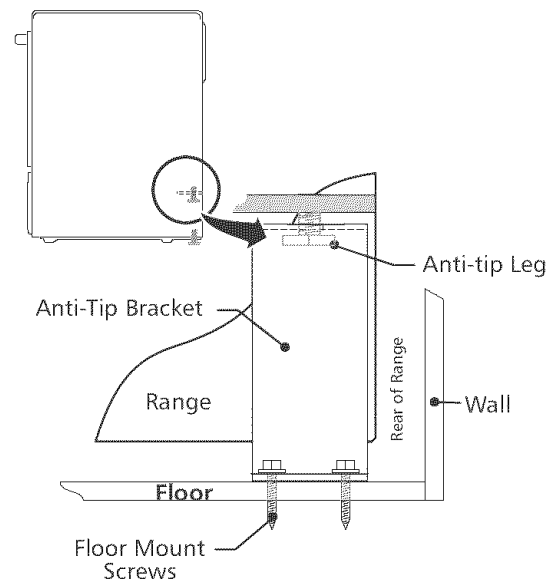

Figure 14
4. Remove template and place bracket on floor. Line up holes in bracket with marks on floor and attach with 4 screws provided. Bracket must be secured to solid floor (figure 14). If attaching to concrete floor, first drill 3/16" (0,48 cm) dia. pilot holes using a masonry drill bit.